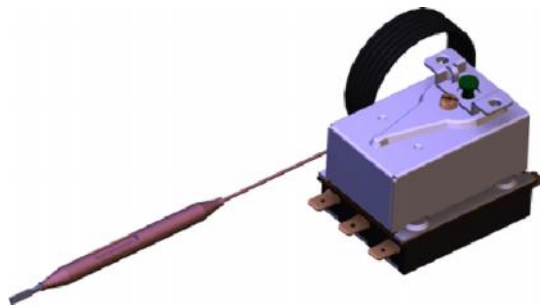

*Figure 4. Installation of safety elements*
- Place the installation is shown in the Assembly diagram of boiler onto the installation in Figure 4
The boiler is supplied with a copper coil so it is necessary to use the VTO with trhe exchanger, as shown in Figure 4. Cold sanitary water is brought to the VTO. When the VTO-probe has the information that the temperature is over 95 degrees the VTO is opened and water flows through copper coil. After some time the temperature of water in boiler returns to its normal state.